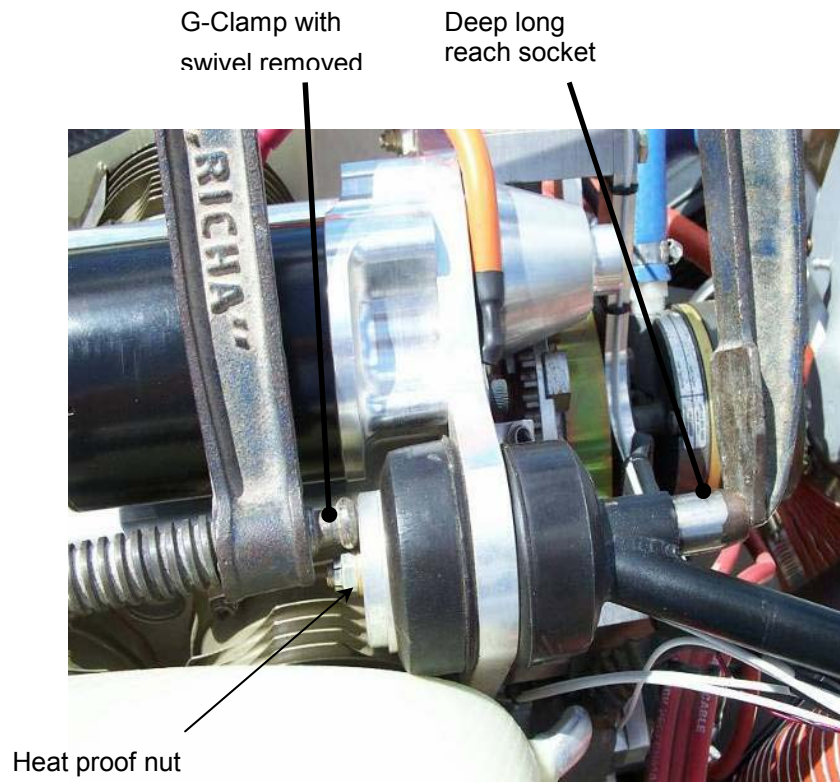

Figure 37. Engine Mount Detail
- To place the nuts on the mount bolts the rubbers must be compressed. Do this by using a deep reach socket inside the engine mount pins & clamping the rubber mount assembly using a G-clamp with the swivel taken off the ball. See Figure 37.
- Connect the fuel line to fuel pump (Refer to Figure 37.). Ensure the fireproof sleeve is in place.